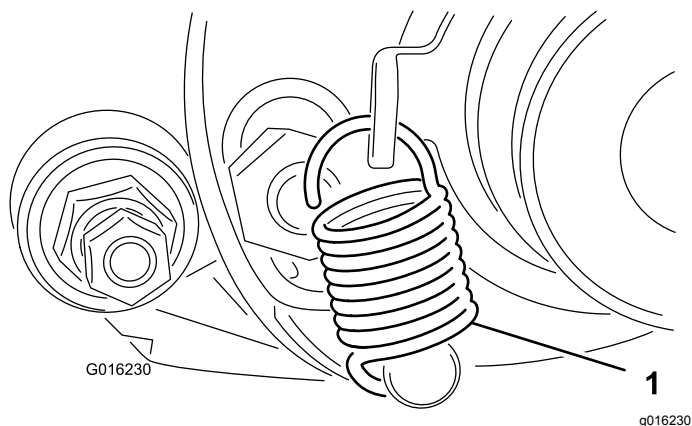

Figure 15
35. Rotate the idler pulley until the shift lever spring can be hooked into the hole in the pulley bracket and onto the stud as shown in Figure 15.